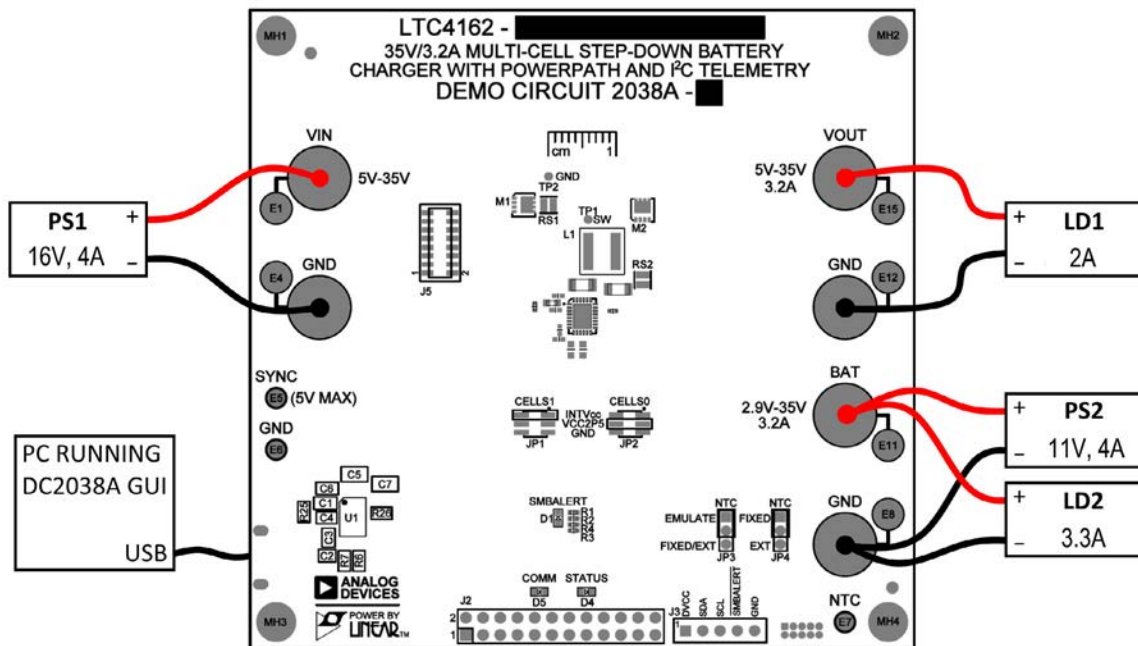

Figure 1. Quick Start Setup for the DC2038A Demo Board
Refer to Figure 1 for the proper measurement equipment setup and jumper settings. Please follow the procedure below to familiarize yourself with the DC2038A.
3. Configure the test equipment as shown in Figure 1. Leave the power supplies and loads in standby mode. Plug the Micro-B connector on DC2038A into a PC.
5. Enable PS2 and LD2. Within a few seconds, observe on the GUI that the battery is charging at 3.2A. The charger is operating in constant current (CC) mode.